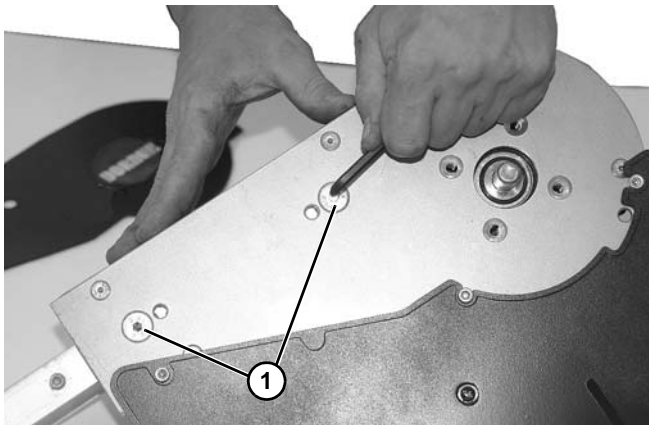

**Figure 205**
10. Remove four socket head screws (**Figure 205, item 1**) on side of drive spindle.